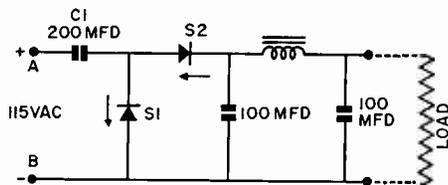
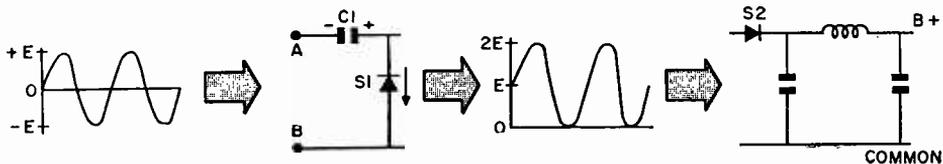

Fig. 4. A Voltage-doubler circuit similar to circuits used in many TV sets.
Fig. 5. Half-wave Doubler Action.
**Selenium Rectifier Voltage Doubler Power Supply.** The transformerless power supply as developed for television receivers uses two selenium rectifiers in a voltage doubler circuit that can furnish between 200 and 300 volts to the plates of the various tubes in a television set. A basic voltage doubler circuit is shown in Fig. 4.
The operation of the circuit in Fig. 4 can best be understood by studying Fig. 5. As shown here an ordinary sine-wave voltage, with peak amplitudes of  $+E$  and  $-E$  is applied across terminals A and B of the voltage doubler. When the input voltage makes B positive with respect to terminal A, selenium rectifier S1 will conduct in the direction indicated by the arrow beside it.
From the theoretical discussion of the voltage doubler circuits, we can see the importance of the input condenser C1 shown in Fig. 4. The input voltage to the second rectifier is largely dependent upon the voltage developed across the condenser. A trouble frequently encountered is failure of the input filter condenser. This usually opens the condenser so that little or no voltage is obtained across it.